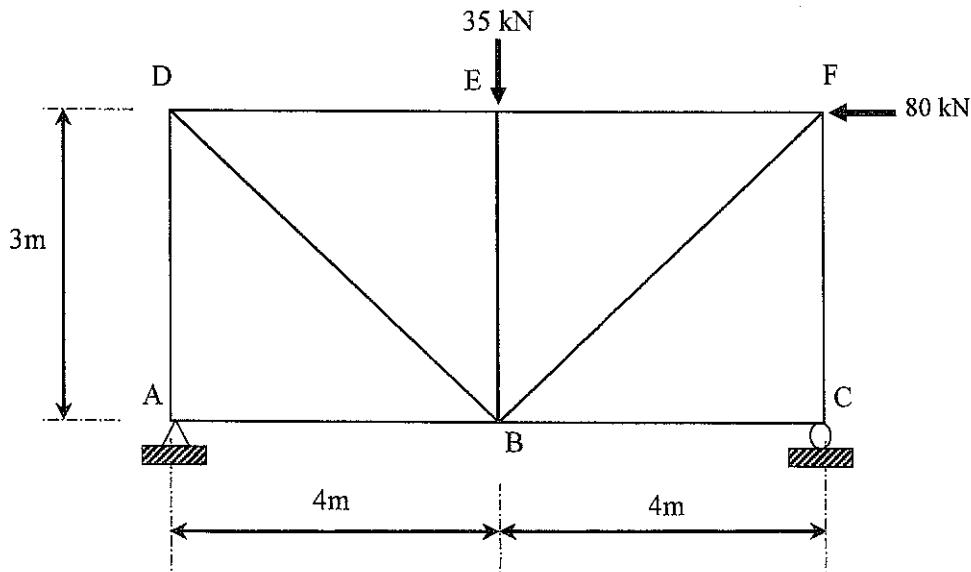

Figure A1(a) / Rajah A1(a)
- (a) A statically determinate truss is subjected to the external loads as shown in **Figure A1(a)**. The truss is subjected to a horizontal load of 80 kN at joint F and vertical load of 35kN at joint E.